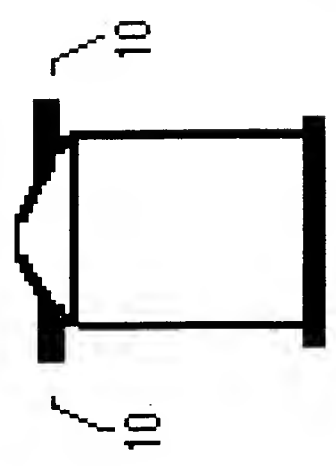

FIG. 5
- Fig 5 shows spark plug ~~(tip)~~ ^A TERMINAL with built-in slot-pins ± 9 mm in length.